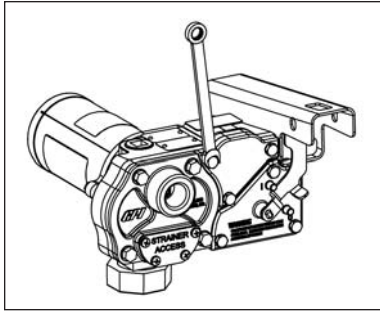

Figure 2
1. Remove the electrical coverplate. (Figure 2) Be careful not to damage gasket.